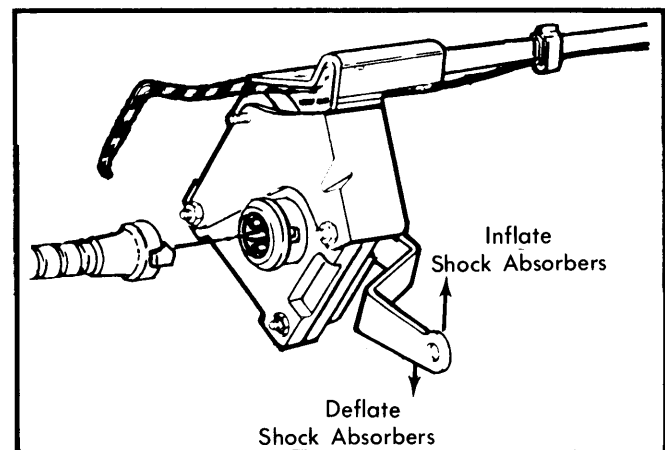

Fig. 2 Height Sensor Test
4) Disconnect link from height sensor arm. See Fig. 2.